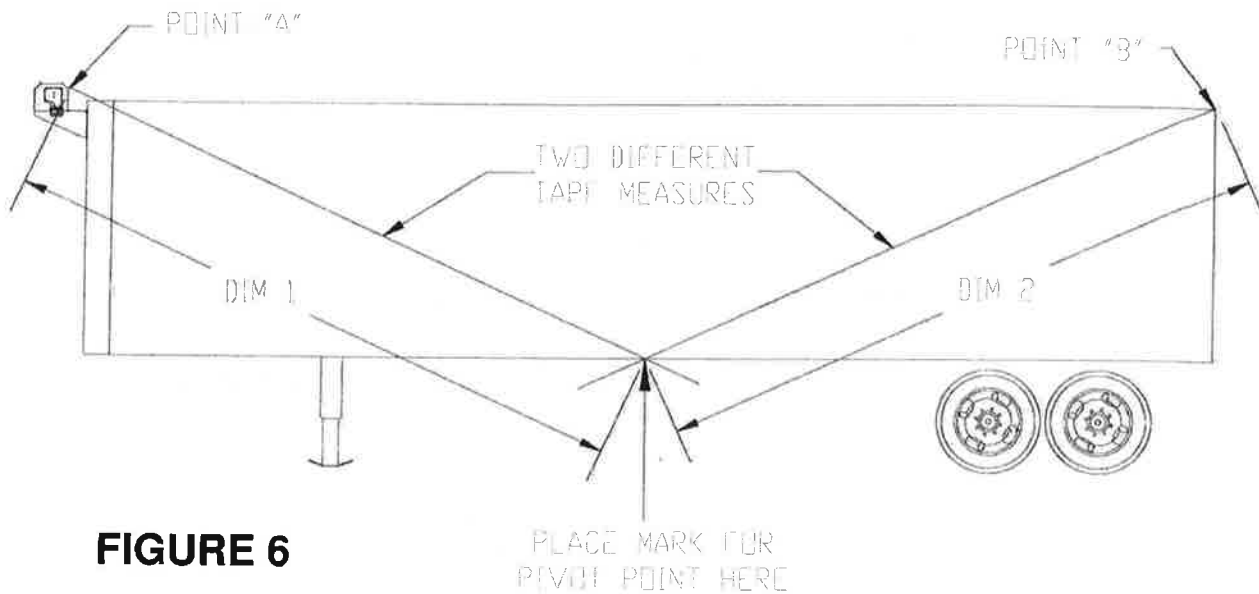

FIGURE 6
- To find the pivot point, pull one tape measure from point "A" (corner of housing assembly) and a separate tape measure from point "B" (rear of trailer). Cross the tape measures at the bottom-middle of the trailer body. Move point where the two tape measures cross until both distances (DIM 1 = DIM 2) on the tape measures are equal. **Write down this dimension below to be used later.** Mark the spot beneath the tape measures where they cross. This is your pivot point. (See Figure 6)
- Slide cast 90° degree elbow into each end of the rear cross bar (RCP) and into both arm extrusions. Adjust so that rear cross bar is centered between sides of trailer and parallel with rear of trailer. Rear cross bar should now be at point "B" as shown on figure 6 on page 6.